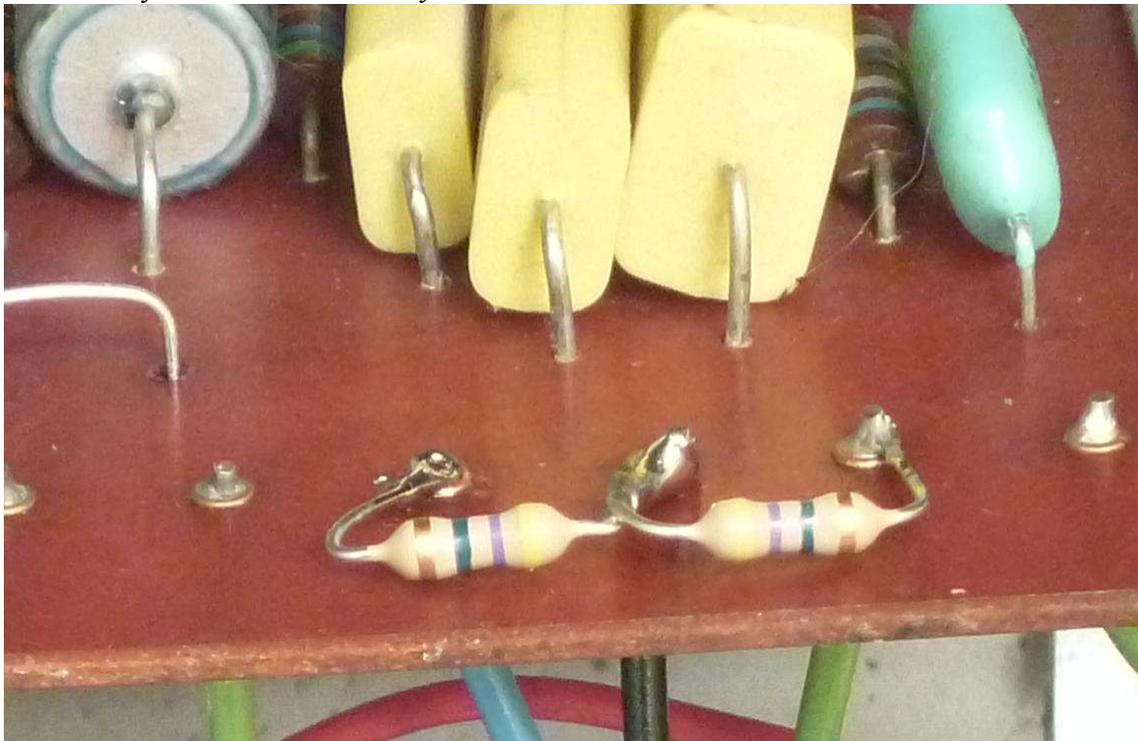

Figure 6-Installing the treble no-click resistors on eyelets 16, 17, and 18
4. Solder the resistor leads in place as shown in Figure 6.
If there's a click, re-check the solder joints on the 4.7 MegOhm resistors added to eyelets 16, 17, and 18, as shown in Figure 6.